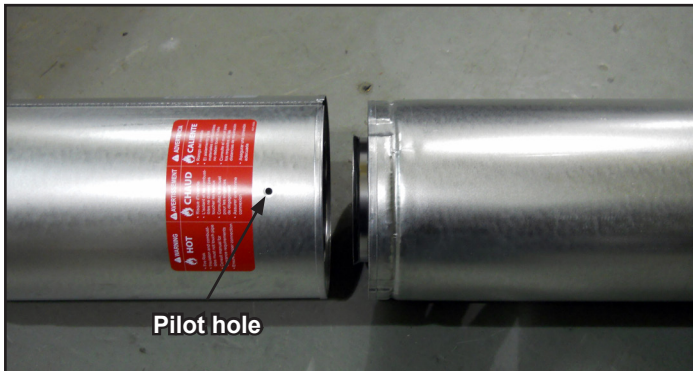

Figure 7.3 - Slip Section Pilot Holes
- Slide the inner flue of the slip section into the inner flue of the pipe section and the outer flue of the slip section over the outer flue of the pipe section, Figure 7.3.